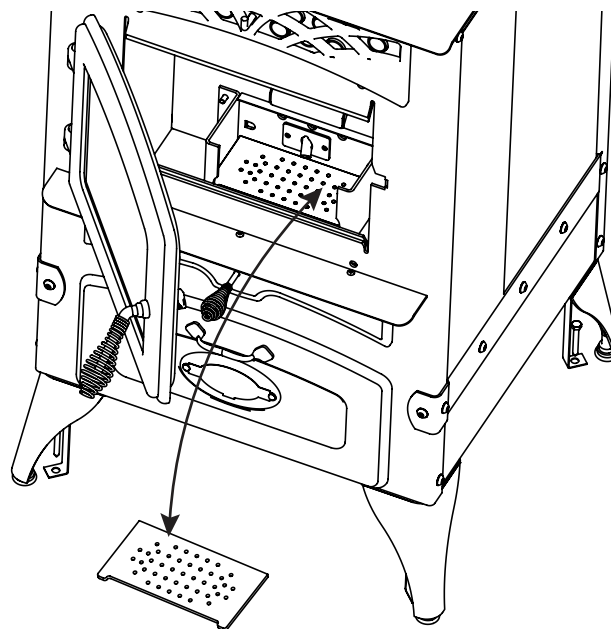

Figure 28: Removable fire plate.
- To clean the fire pot with the cleaning tool, remove the fire pot by unscrewing the firepot cleaning rod from the fire pot. Remove the rod and the firepot. Remove the fire plate by lifting it out of pot holder (Figure 28). Brush all of the ash from beneath the fireplate into the ash pan.